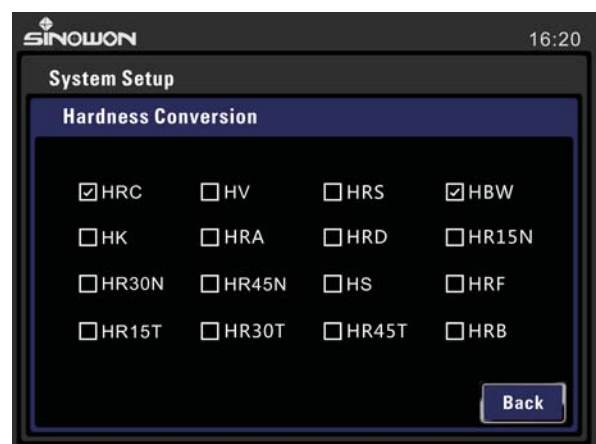

Fig 5-3 Conversion Scales and Standards
- 1) **【Conversion Scale】** : Click the small box in front of each scale and can click 2 scales at a time, total 16 scales, HRC, HV, HBS, HBW, HK, HRA, HRD, HR15N, HR30N, HR45N, HS, HRF, HR15T, HR30T, HR45T, HRB. See Fig5-3.
- 2) **【Conversion Standard】** : Under conversion scales, there are 2 options ASTM and DIN. (Fig 5-3).
- 2) Select hardness conversion scale (Fig5-3) .